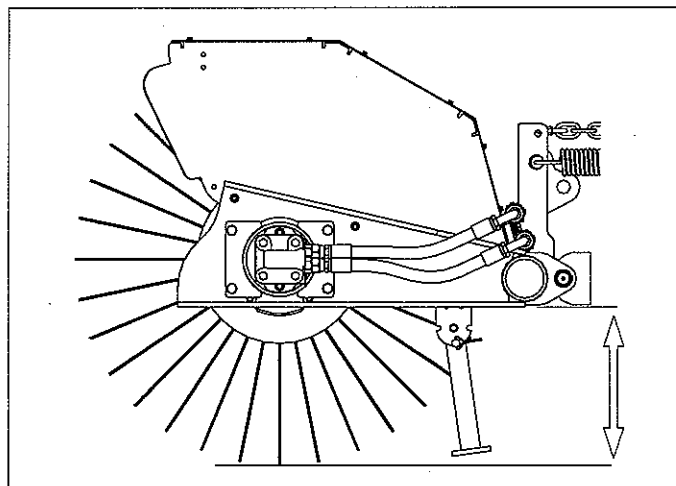

figure 1
6. Position the brush head assembly straight ahead. On each side, measure from the brush frame to the ground (figure 1). If measurements are not equal: